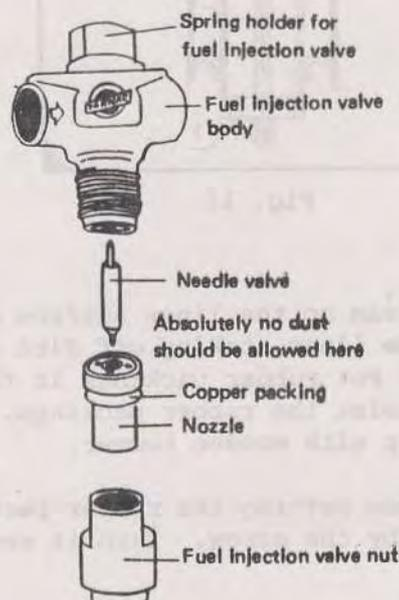

Fig. 19
(2) When reassembling the fuel strainer case with fuel injection valve body, put the former to the arrow-marked side of the latter, as shown in Fig. 19.